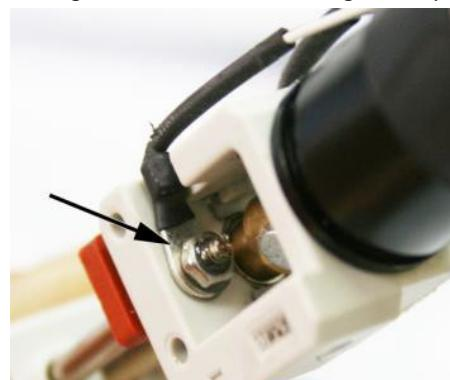

Figure 6-35. Required Tools (Left) – Releasing the Wire Connectors (Right)
- Secure the motor's wire loops to the block — place the yellow-green wire loop above the horseshoe washer in the inner side of the block and secure it with a washer and closing nut (see Figure 6-35).